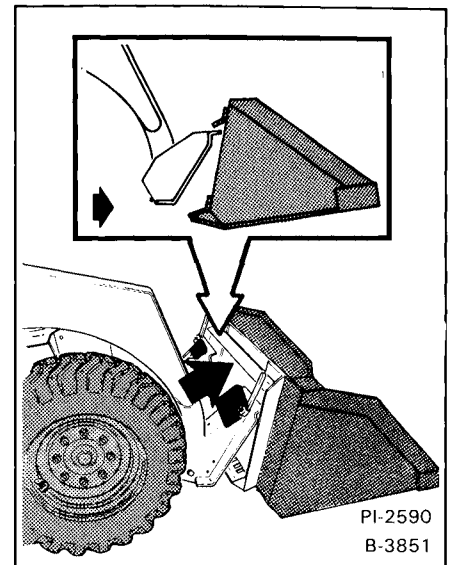

Fig. 29 Installing the Bucket
2. Tilt the Bob-Tach forward. Drive forward to the bucket until the top edge of the Bob-Tach is completely under the flange of the bucket (Fig. 29). DO NOT hit the Bob-Tach levers on the bucket.